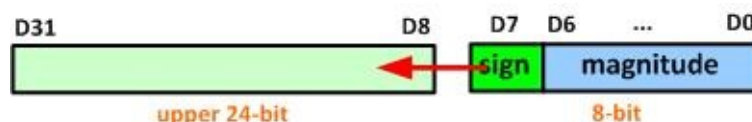

Figure 5-1: Sign Extending a Byte
**LDRSB** loads into the destination register a byte from memory and sign extends (copy D7, the sign flag) to all 32 bits. This is illustrated in Figure 5-1.